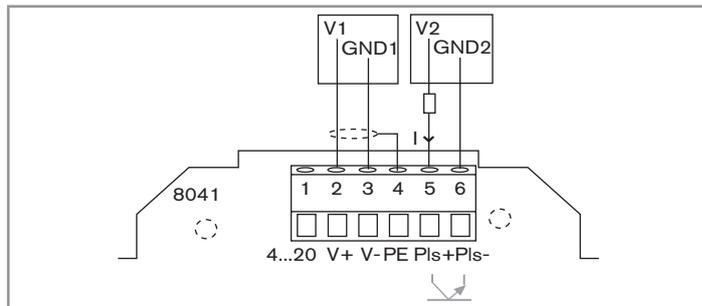

Fig. 22 : Connection of the frequency output to an electromechanical counter with its own power supply
- or to a load such as an electronic counter with its own power supply (see Fig. 22).